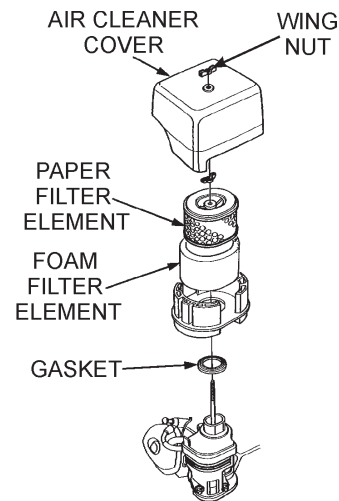

Figure 29. Engine Air Filter
2. Tap the paper filter element (Figure 29) several times on a hard surface to remove dirt, or blow compressed air [not exceeding 30 psi (207 kPa, 2.1 kgf/cm²)] through the filter element from the air cleaner case side. **NEVER** brush off dirt. Brushing will force dirt into the fibers. Replace the paper filter element if it is excessively dirty.